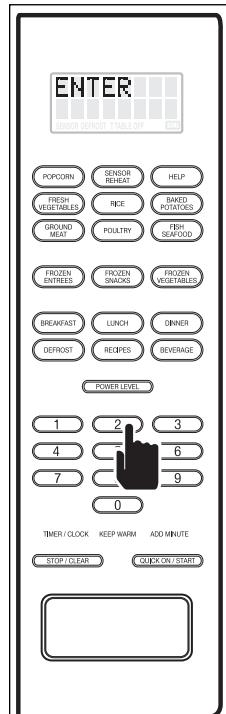

Figure 3-18.
2. Press the number 2 key and "ENTER - TIME OF DAY" will flash on the digital display (See Figure 3-18).